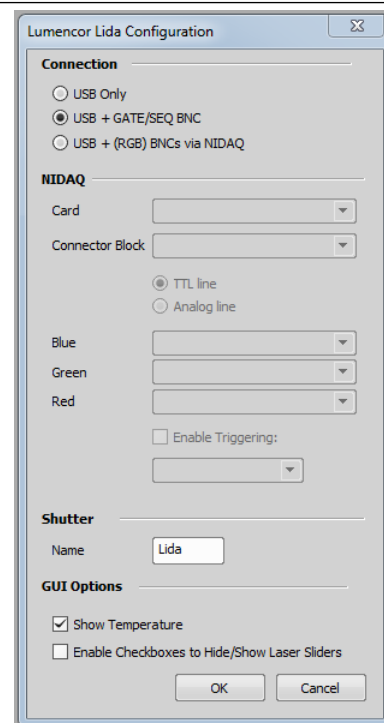

Figure 6. Lida Configuration dialog
6. Click “Configure Device” to open the Lida Configuration dialog. Select connection type USB + GATE/SEQ BNC (Figure 6) [3].